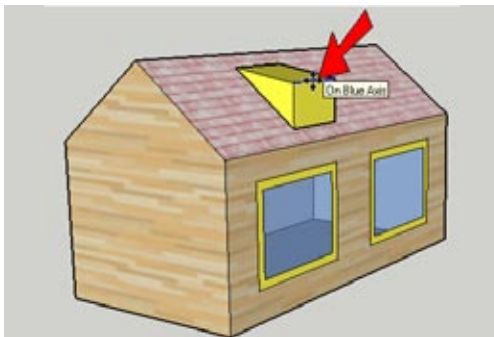

Figure 5-18
6. To change the flat roof into a sloped one, use Move to slightly push down the front edge (Figure 5-18).